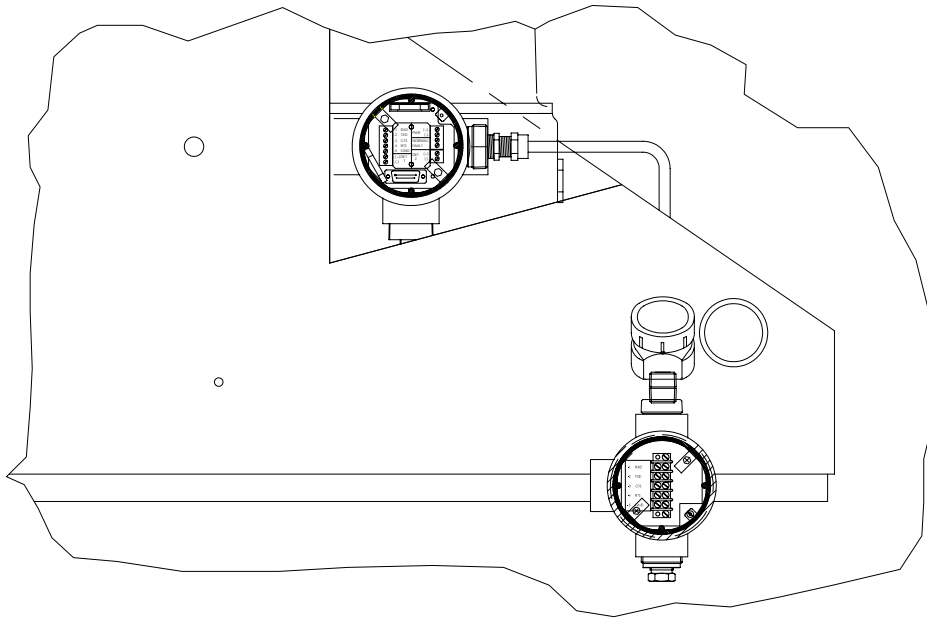

Figure 19 Installed RS-232 Option
- 15) Trim and strip wire ends located in the Btu Conduit Box (see Figure 19).